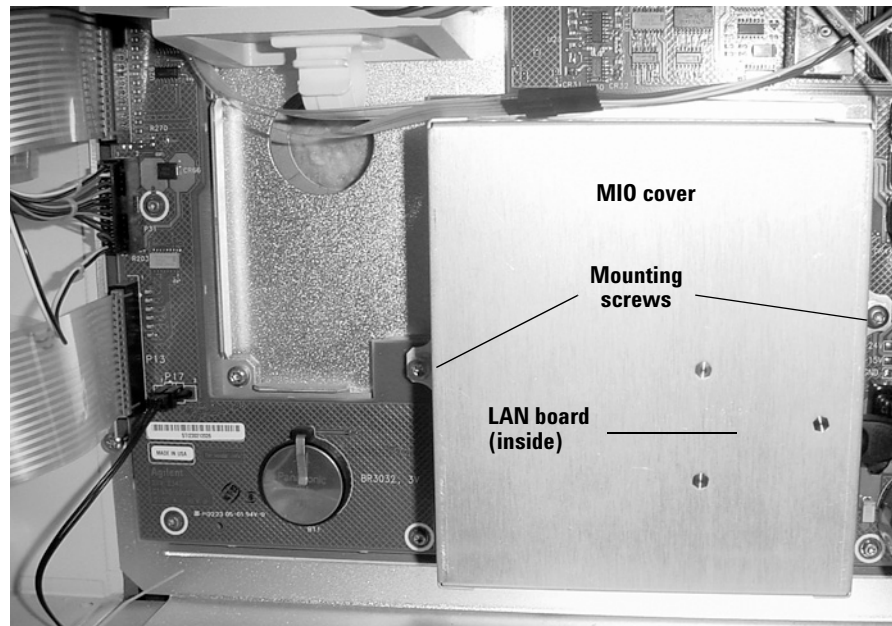

Figure 4 MIO cover and mounting screws
- 1 Locate and carefully remove the large metal “MIO cover” using a T-20 Torx screwdriver to remove its two mounting screws (Figure 4).